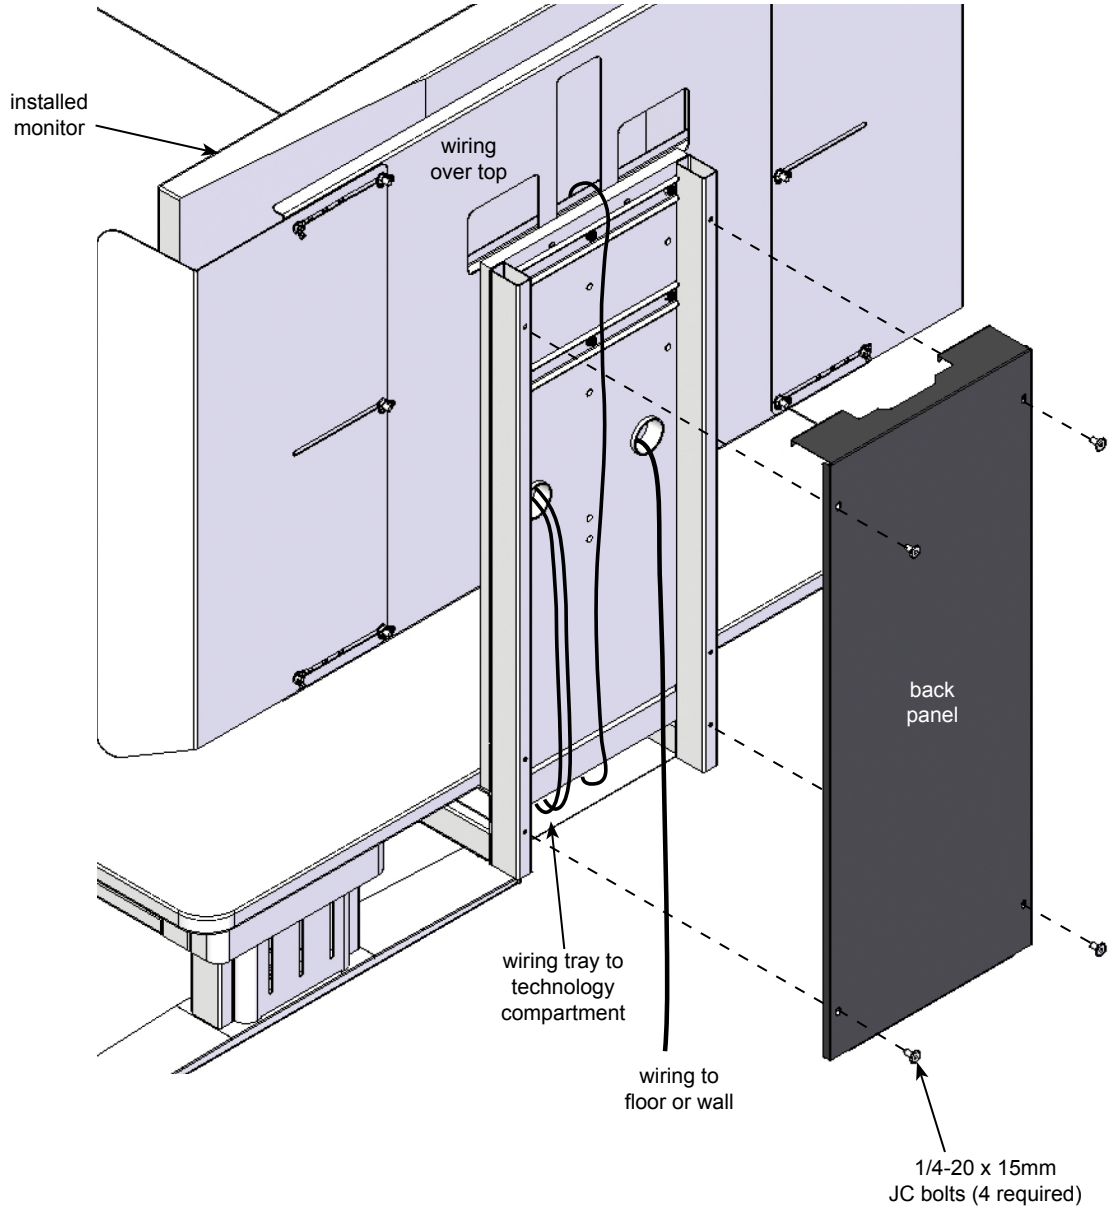

Figure 5
1. Route cords / wires to the monitor using the wiring tray and grommets. Wire routing options are shown in **Figure 5**.
2. After all wiring has been completed, install the back panel with (4) 1/4-20 x 15mm JC bolts and tighten securely.